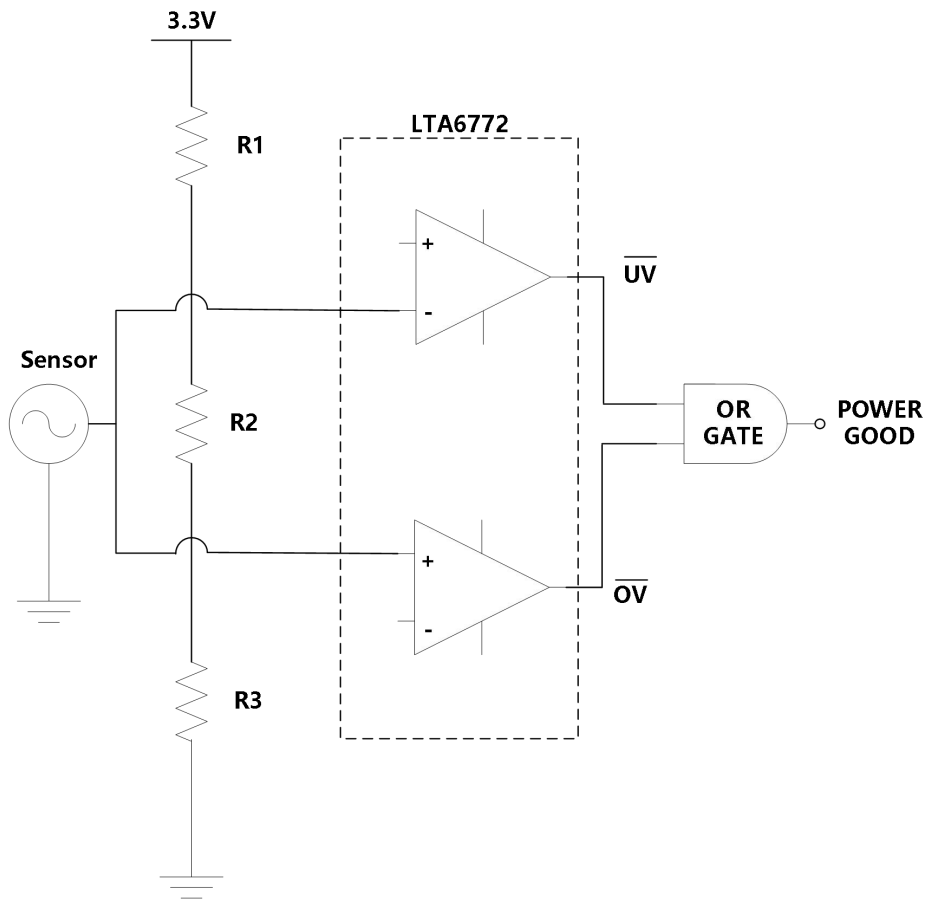

Figure 22: Window Comparator
Window Comparators are commonly used to detect undervoltage (UV) and overvoltage (OV) conditions. Figure 22 shows a simple window comparator circuit.
Configure the circuit as shown in Figure 22. Connect V_{S+} to a 3.3 V power supply and V_{S-} to ground. Make R1, R2 and R3 each 10Mohm resistors. These three resistors are used to create the positive and negative thresholds for the window comparator (V_{TH+} and V_{TH-}). With each resistor being equal, V_{TH+} is 2.2 V and V_{TH-} is 1.1 V. Large resistor values such as 10Mohm are used to minimize power consumption. The sensor output voltage is applied to the inverting and non-inverting inputs of the 2-channel LTA6772's. The respective comparator outputs will be low when the sensor is less than 1.1 V or greater than 2.2 V. V_{OUT} will be high when the sensor is in the range of 1.1 V to 2.2 V. See the application curve in Figure 23.